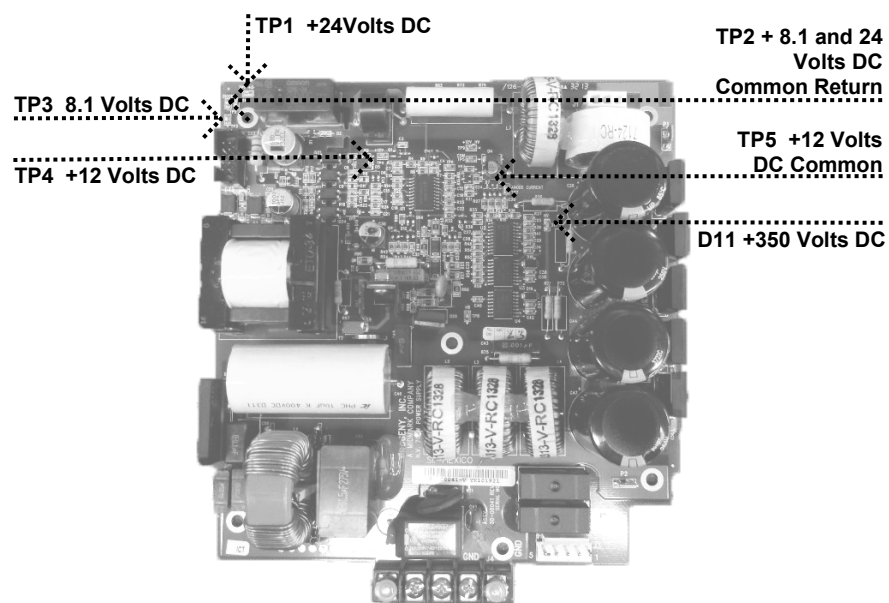

Figure 61
1. On the Power Supply Board, observe that the power supply indicator D11 +350volts DC is illuminated, as shown in *Figure 61*. Illumination represents proper stored energy for an exposure. If this indicator is not illuminated, it will be necessary to replace this board.
3. On the Power Supply Board, use TP2 as a common test point to check TP1 +24 volts DC and TP3 8.1 volts DC. Then use TP5 as the common return to check TP4 for the presence of +12 volts DC, as shown in *Figure 61*. Should any of these voltages not be present, replace the Power Supply Board. If each voltage is present, check other voltages on the Logic Board.